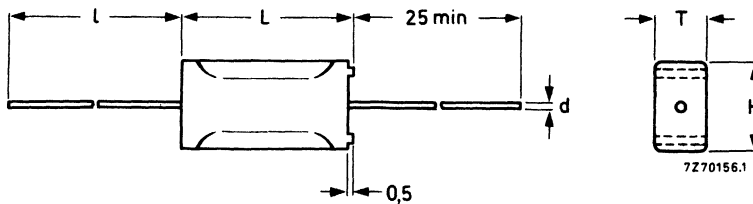

Fig. 1 Capacitors 2222 330 0
Table 1 U_R (AC) = 250 V, Fig. 1